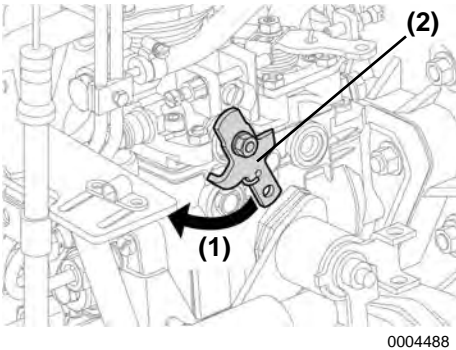

Figure 22
- a. Move and hold (**Figure 22, (1)**) the stop lever (**Figure 22, (2)**) on the governor to stop fuel flow while cranking.